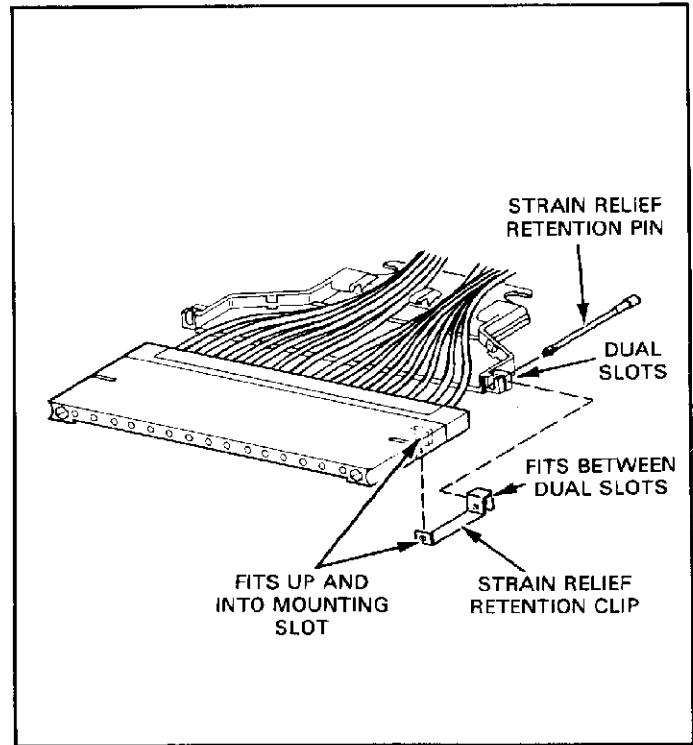

Fig. 5
3. Position the strain relief retention clip on the dual slots of the strain relief hood as shown in Figure 5. The clip lance on the extreme left fits into the mounting slot at the bottom of the plug module, and the lance at the extreme right fits from the top *between* the dual slots.